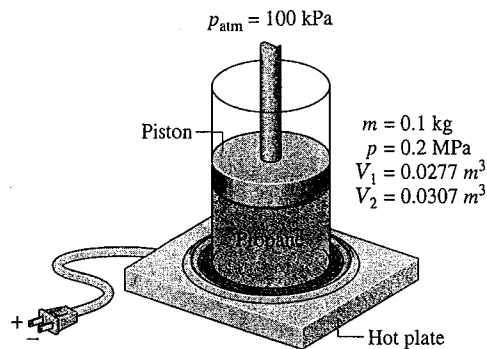

Fig. P3.56
- 3.56 As shown in Fig. P3.56, 0.1 kg of propane is contained within a piston-cylinder assembly at a constant pressure of 0.2 MPa. Energy transfer by heat occurs slowly to the propane, and the volume of the propane increases from 0.0277 m³ to 0.0307 m³. Friction between the piston and cylinder is negligible. The local atmospheric pressure and acceleration of gravity are 100 kPa and 9.81 m/s², respectively. The propane experiences no significant kinetic and potential energy effects. For the propane, determine (a) the initial and